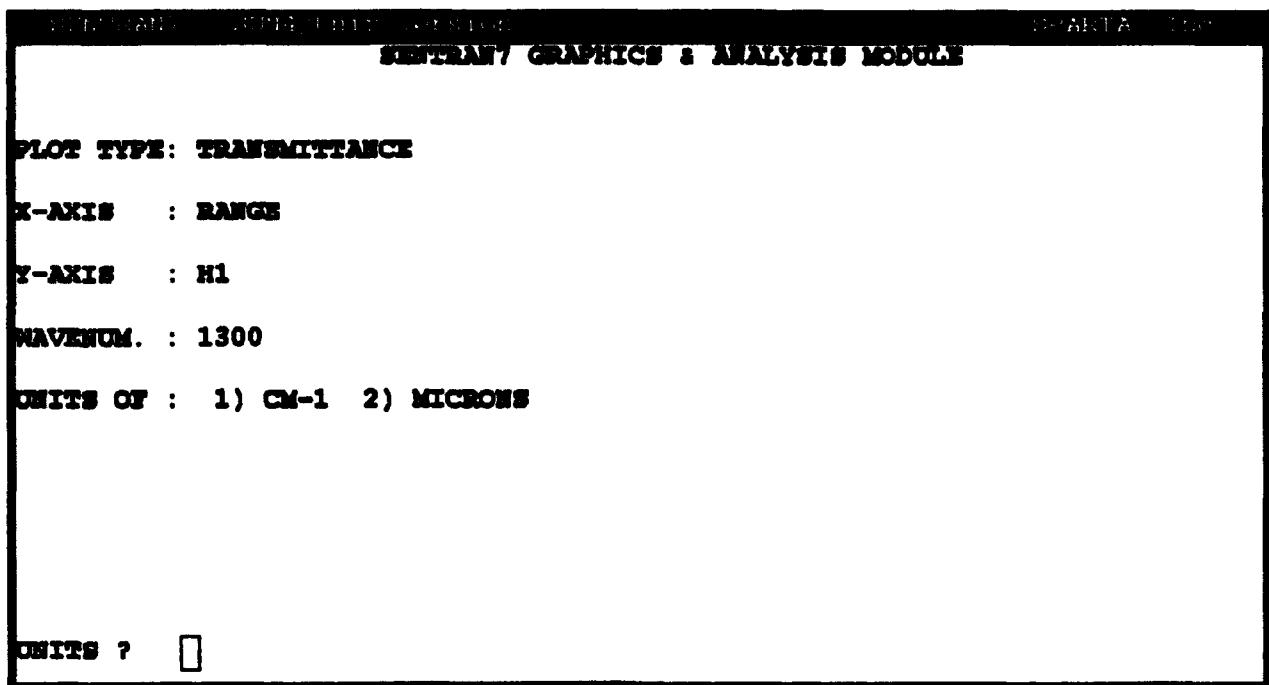

Figure 65. Screen Prompt Requesting the User to Input the Units to Use in Plotting
- 5) Since we have already used two independent axes for our chart, we must select a fixed wavenumber for our data set. In response to the prompt for wavenumber, type '1300'. The G&A option will then prompt you for the units in which frequency dependent data should be expressed (cm^{-1} or microns), as shown in Figure 65.